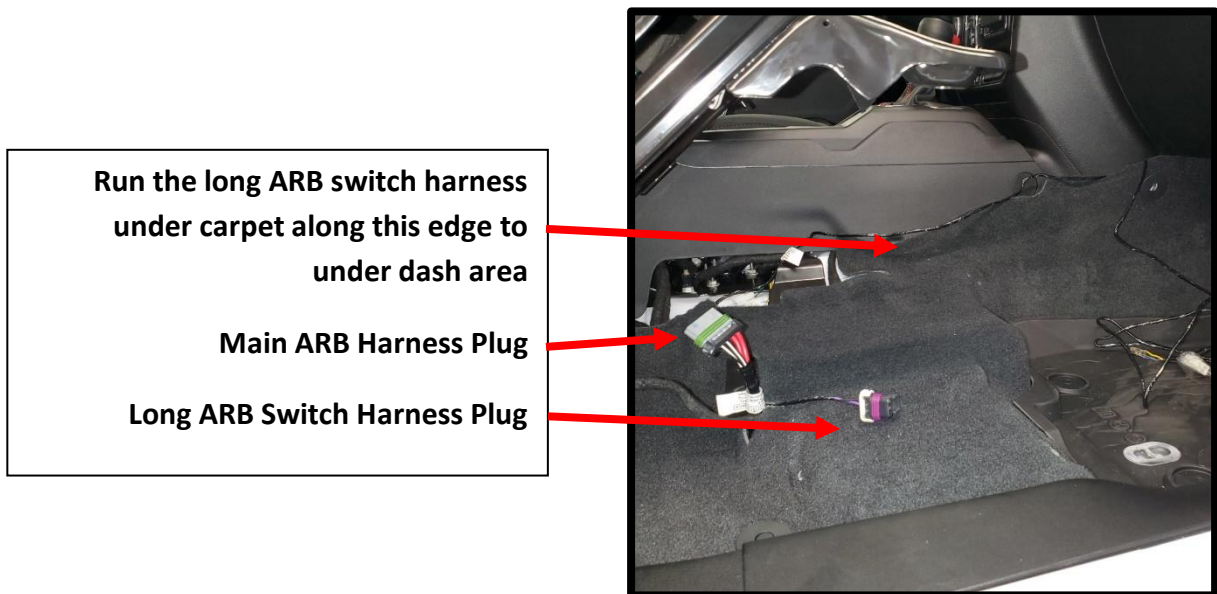

Figure 17
2-F) If you plan to use a factory AUX switch to turn on/off ARB compressor and the ARB pressure control module, continue reading, all others replace the carpet under the passenger seat leaving the harnesses as shown in **Figure 17** then proceed to **Step 3**.
Leave about six (6) inches of the plug end of the long ARB switch harness near the main ARB harness plug. Run the remaining length along the floor and behind the carpet along the edge of the center console and up under the dash near the AUX switch harness. Leave excess harness there for now and we will return to this later. Put the carpet back in place under seat leaving the ARB plugs as shown in **Figure 17**.